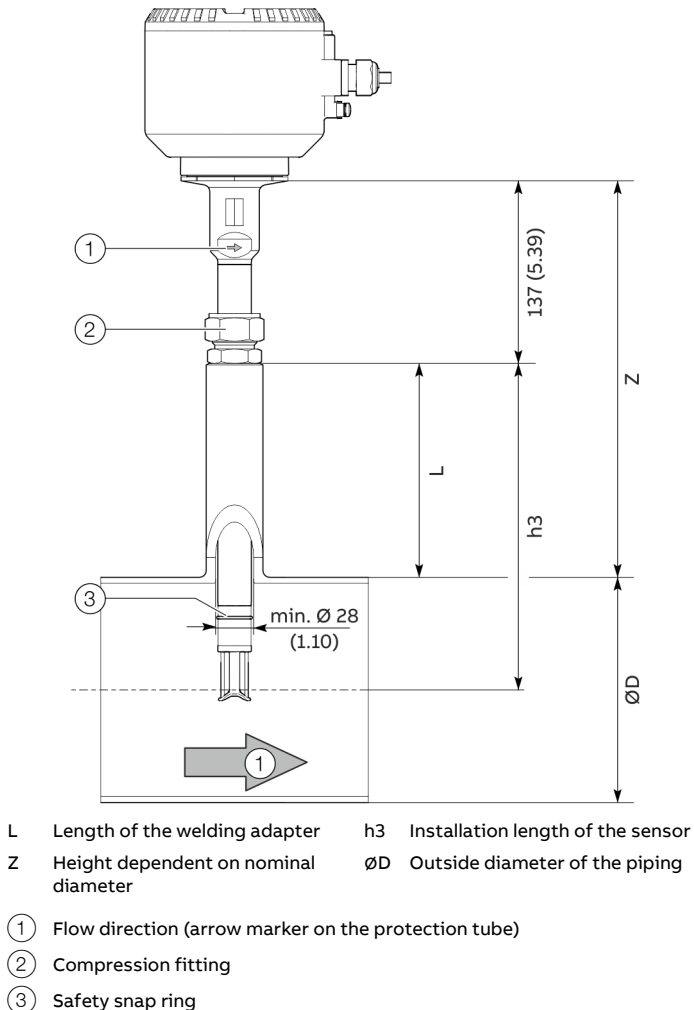

Figure 22: Calculating mounting dimensions
3. Move the sensor to the correct height for the calculated 'Z' dimension (see Figure 22) and secure the compression fitting against shifting by tightening the union nut by hand.